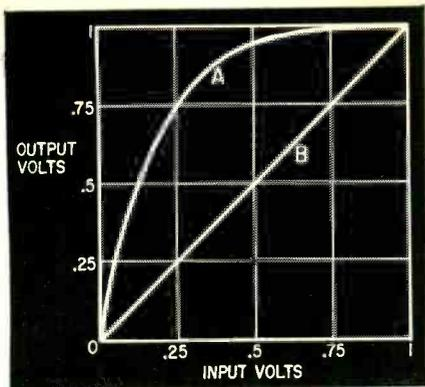
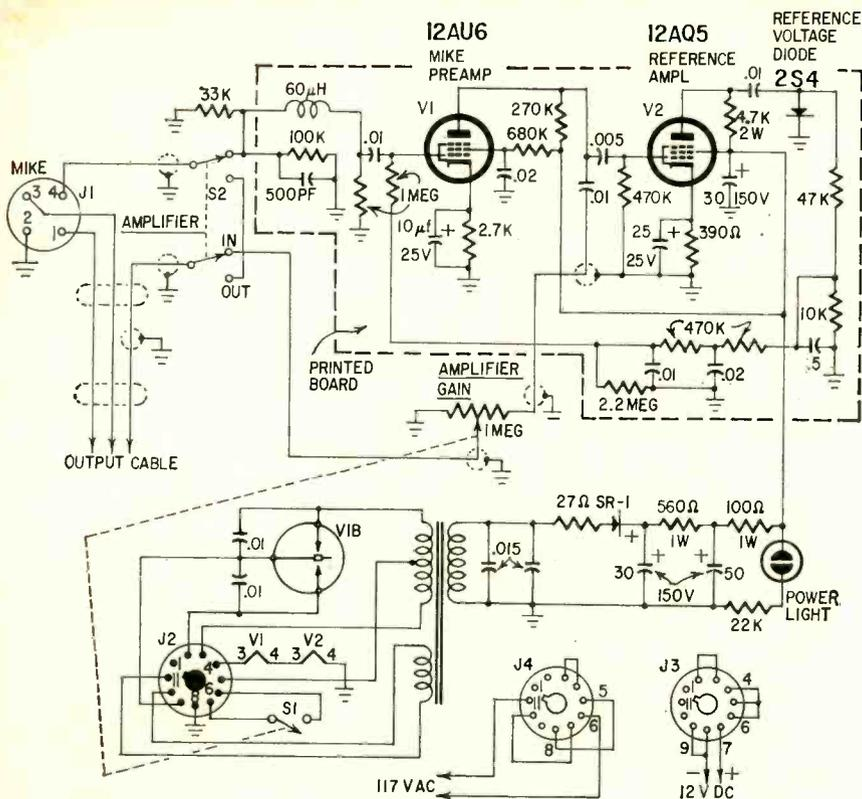

Fig. 2—Gain of compressor amplifier (curve A) levels off at high amplitudes; Ordinary amplifier (B) is more or less linear up to overload point.
Fig. 4—A compressor type accessory, Sampson power modulator rectifies amplified speech signal, biases preamp accordingly to limit gain on loud signals.
plified much more than in a constant-gain amplifier, while the louder sounds get little or no amplification. Fig. 2 compares the output of a speech or volume compressor (curve A) with that of a conventional constant-gain amplifier (curve B).
In a speech compressor, we rectify and filter a portion of the modulator's audio output and use it as a variable negative bias on the compressor stage. Fig. 1-d shows our typical audio waveform of modulation for various speech levels form (Fig. 1-a) after passing through a speech compressor with the gain curve (A) in Fig. 2.
The signal from the microphone is amplified by the 12AU6 (Fig. 4) and fed simultaneously to the grid of the 12AQ5 and to the transmitter's speech amplifier via the AMPLIFIER GAIN control. The 12AQ5's output is rectified and filtered to produce a variable negative grid bias for the 12AU6. The filter network is arranged so the 12AU6 operates with high gain for weak sounds and low gain for loud sounds. The gain curve of the 12AU6 looks like curve A in Fig. 2.
This chassis uses a rather unusual retrace eliminator circuit (Fig. 2). The vertical and horizontal blanking pulses are both fed from the same